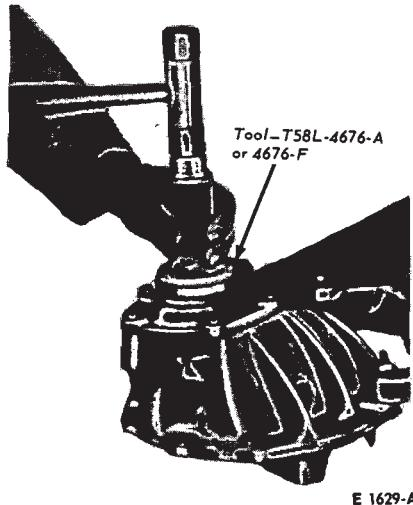

FIG. 46—Installing Oil Seal
7. Install a new seal in the bearing retainer (Fig. 46).
8. Install a seal in the bearing retainer, (Fig. 46).